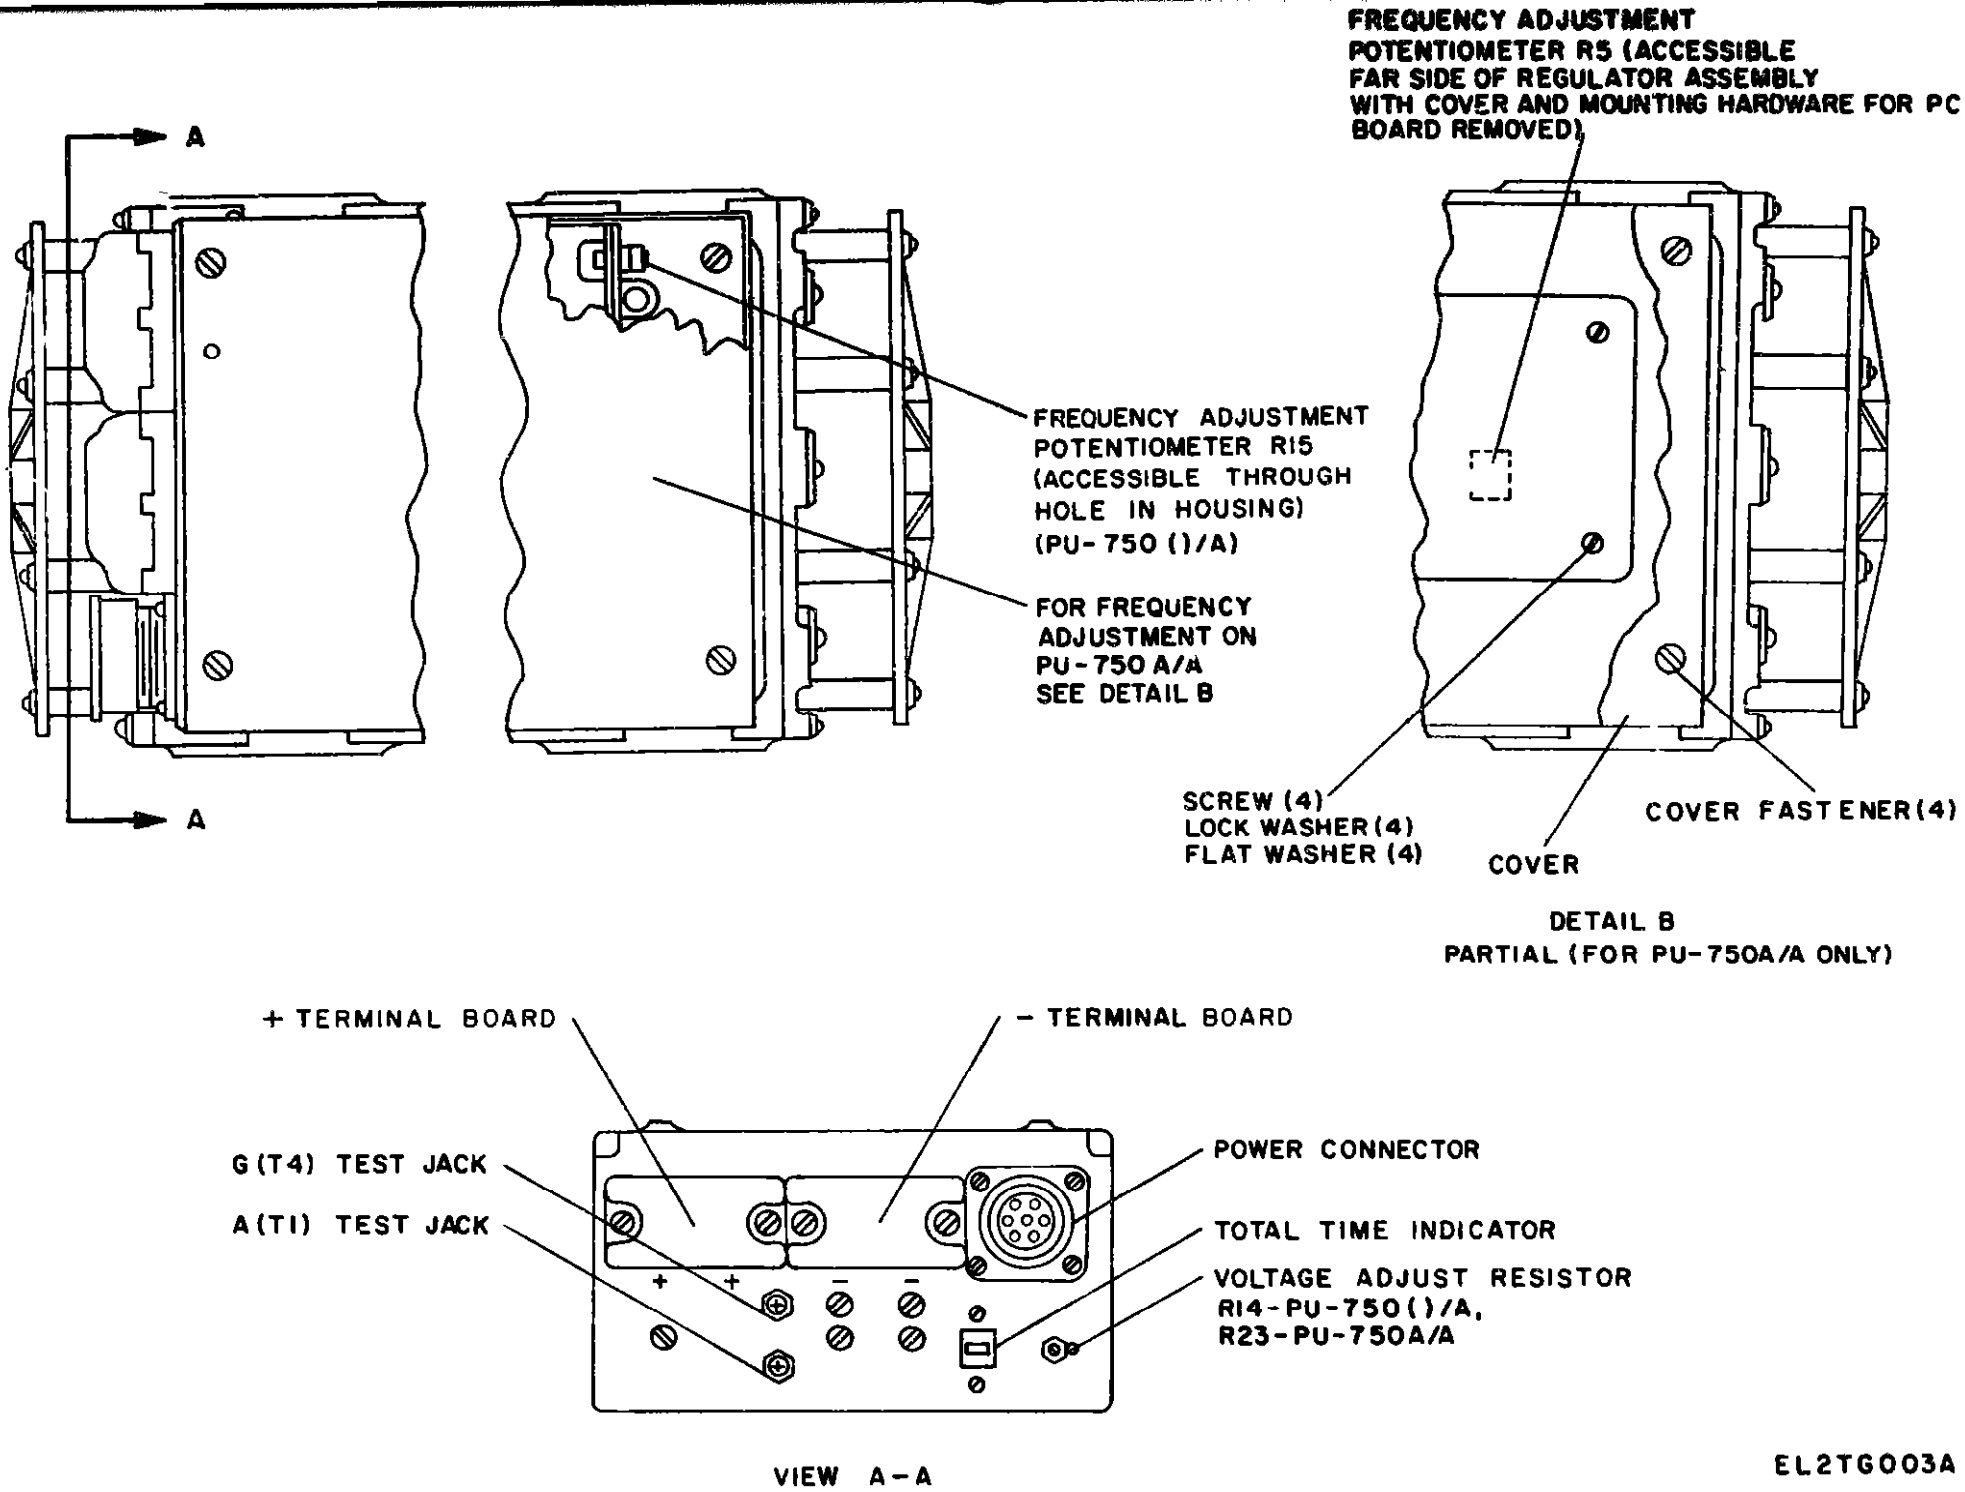

Figure 3-1. Voltage and frequency adjustments
(1) Turn the main power and other appropriate switches in the aircraft to the ON position. Check to see that the motor-generator starts and that the aircraft dc voltmeter reads 28 volts
(2) Plug the prods of electrical power test set AN/UPM-93 into the motor-generator test joint jacks (fig 3-1). Remove the control box cover
(3) Adjust the AN/UPM-93 range selector to the 150 position
(4) Operate the motor-generator at no load (no ac components of the aircraft operating). Loosen locknut on voltage adjust resistor R14 or R23 as applicable (fig 3-1) and turn through its full range. Voltage indicated on the voltmeter of the AN/UPM-93 must not be less than 110 or more than 120
(5) Apply a full load to the motor-generator by turning on all the aircraft equipment that operates from the ac supplied by the motor-generator (Refer to the applicable aircraft technical manual). Repeat the procedure given in step (4). No variation should occur in the adjustment range specified. Turn off the aircraft ac components and set voltage adjustment resistor R14 or R23, as applicable, so that a 115-volt output is indicated on the voltmeter of the AN/UPM-93. Tighten the locknut
(6) On 4B48-6-A, operate the motor-generator at no load and turn frequency adjust resistor R15 (fig 3-1) through its full range. The limits, as indicated on the frequency meter of the AN/UPM-93, must be